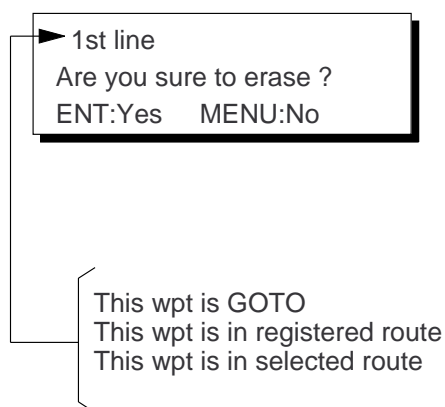

Figure 5-17
- 2) Press the [CLEAR] key. The message shown in Figure 5-17 appears if the waypoint is currently selected as destination, is part of a registered route, or is part of the route currently being navigated.